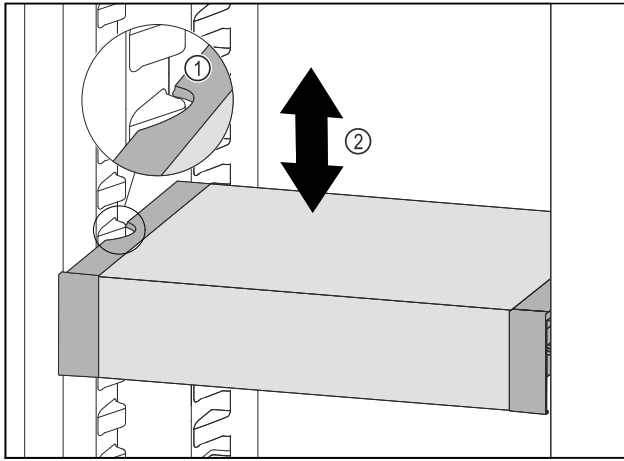

Fig. 93
- Pull VarioSafe forwards until the recesses in the side of the VarioSafe are at the level of the support rib in the refrigerator compartment. *Fig. 93 (1)*
- Move VarioSafe up or down in the refrigerator compartment until the desired height is reached. *Fig. 93 (2)*